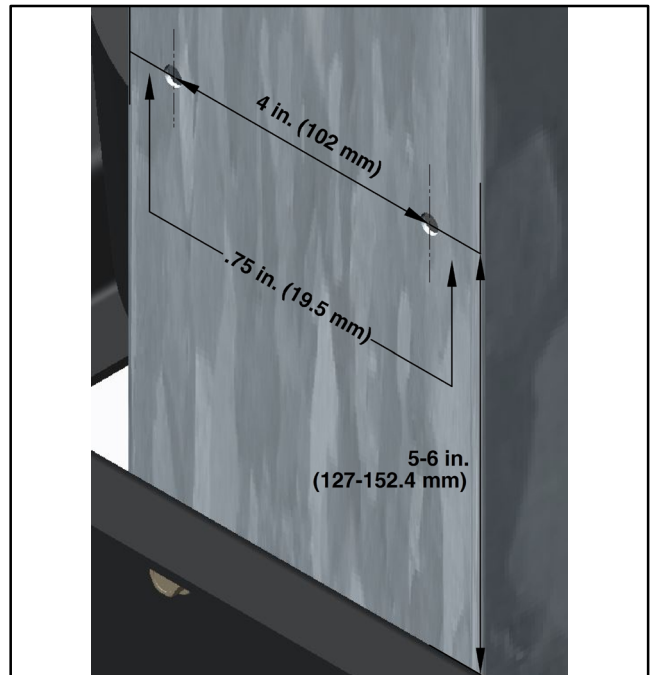

Figure 8 Location of block heater bracket holes
- Drill 2 holes of 6 mm (0.25 in.) diameter, 127–152 mm (5–6 in.) above skid rail and 102 mm (4 in.) horizontally apart on inner bulkhead panel to install the block heater bracket. See Figure 8.